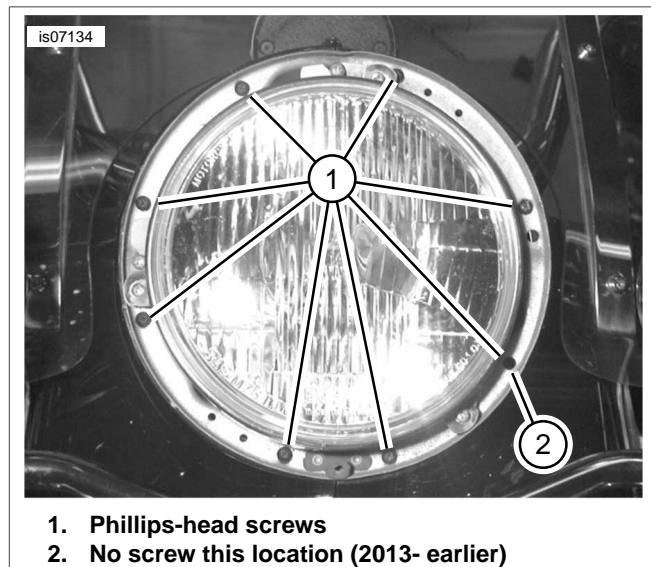

Figure 2. Headlamp Housing Mount (FLHP)
2. **FLHP Models:** See Figure 2. Remove the Phillips-head screws (1) securing the headlamp bucket to the nacelle.
12. See Figure 2. Get the seven Phillips-head screws removed earlier, and seven **new** washers from the kit. Align the headlamp assembly to the opening in the nacelle. Install with the screws and washers. Tighten the mounting screws to 9-18 **in-lbs** (1.0-2.0 Nm).